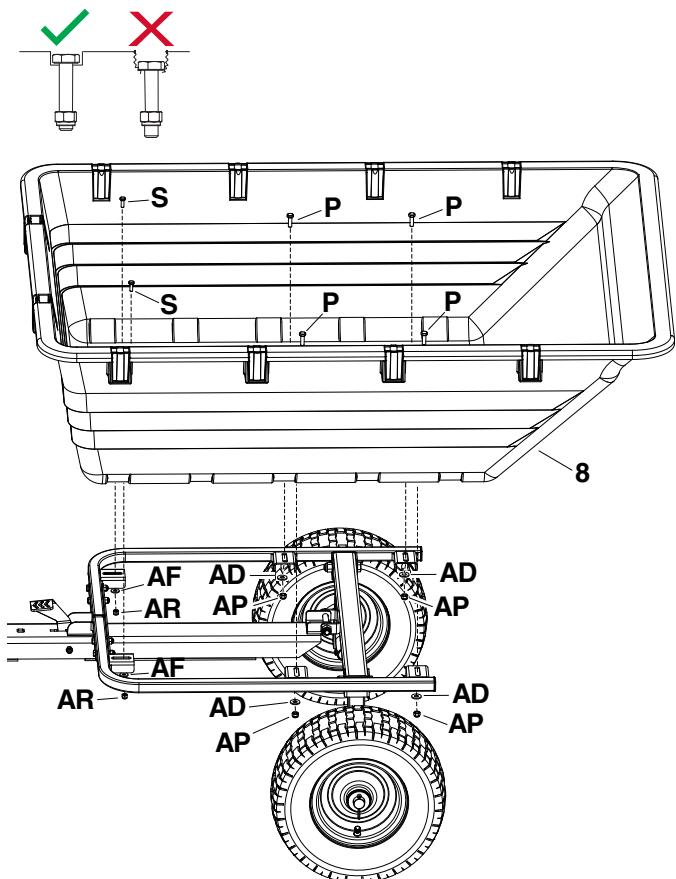

FIGURE 13
- Tighten all 6 bolts but be careful not to overtighten. Image below shows how the bolts will look like when tightened. See figure 13.